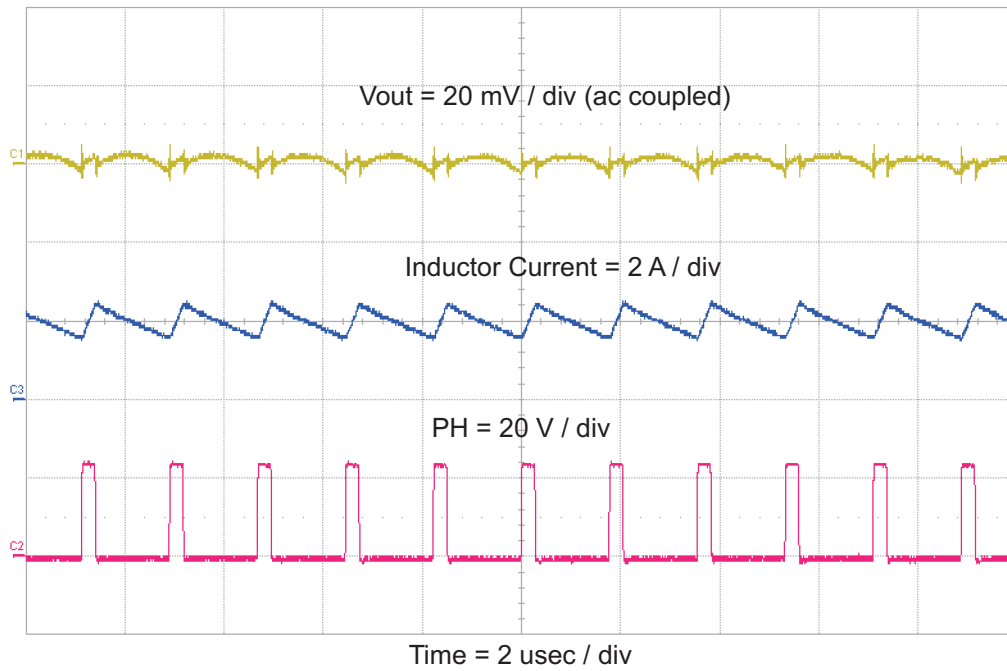
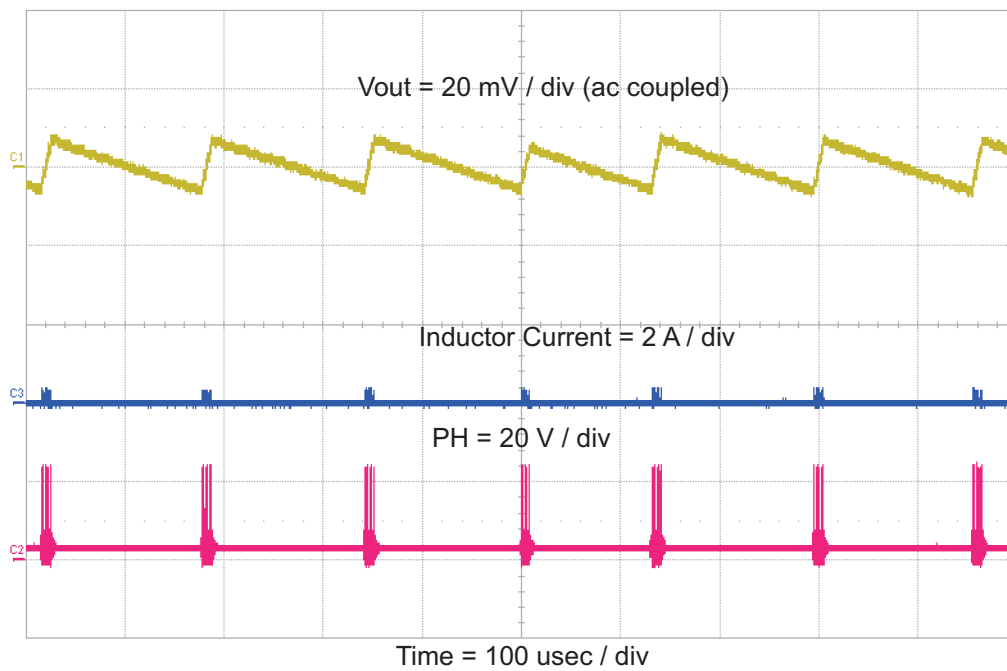

Figure 6. Output Ripple Voltage in Normal PWM Operation
Figure 7. Output Ripple Voltage in Eco-mode™ Operation
There are trade offs involved with Eco-mode™ operation. First, during Eco-mode™ operation the output ripple voltage is increased. During sleep time, the device is not switching and the output is allowed to decay until the COMP pin voltage rises above the clamp voltage. Compare the output ripple voltage during continuous conduction operation in Figure 6 to the output ripple in Eco-mode™ operation in Figure 7. For both figures, the top trace is  $V_{OUT}$ , the middle trace is inductor current and the bottom trace is the switching node (PH) voltage.